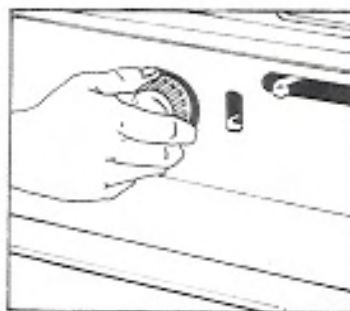

Fig. 6
- (1) For first time using the heater, wait 30 minutes after fueling, to allow wick to become fully saturated before lighting. Ignition is possible after 15 minutes when refueling. If wick is not fully saturated when lighted, heater will not burn properly and would cause odours.
- (2) Raise the wick to its full height by turning the wick adjusting knob clockwise till it stops. (Fig. 6)